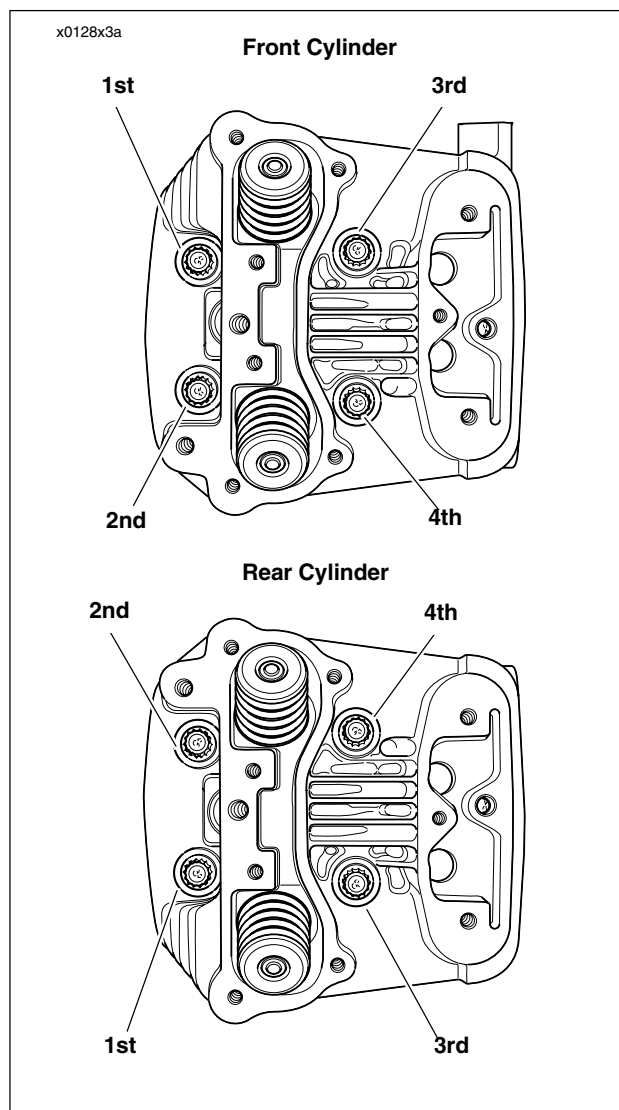

Figure 3-63. Head Screw Loosening/Tightening Sequence
See Figure 3-63. Distortion to the head, cylinder and crankcase studs may result if head screws are not loosened (or tightened) gradually in the sequence shown.
1. See Figure 3-63. Loosen each head screw 1/8-turn following the sequence shown.